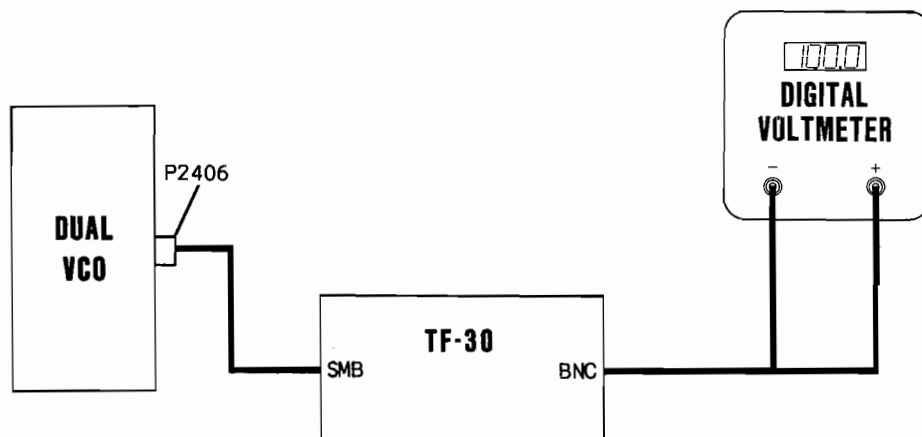

Figure 4-1 TF-30 Tune Fixture Hook-up
16. Connect TF-30 to P2406 on Dual VCO and DVM to BNC connector on TF-30 as illustrated in Figure 4-1.
22. Disconnect TF-30 from P2406 on Dual VCO and connect P2806 to J2806 on HIGH LOOP Module. Connect P2403 to J2403 on Dual VCO. Verify Freq LOCK Indicator (43) on front panel of FM/AM-1500 is illuminated, indicating phase-lock. If not, adjust R2341 (GAIN) on Analog HIGH LOOP PC Board (#2) until phase-lock is achieved.